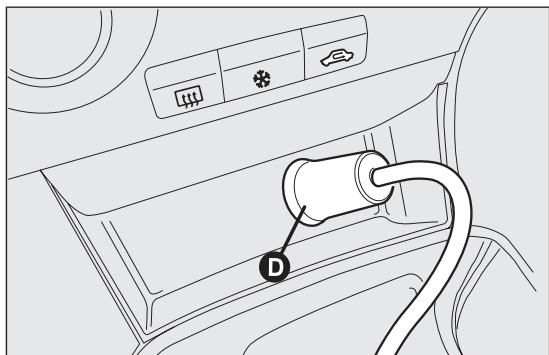
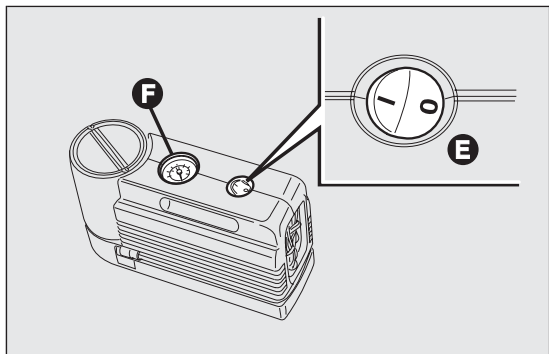

fig. 153
fig. 154
- make sure that switch E fig. 154 for the compressor is in position 0 (off), start the engine, insert plug D fig. 153 into the cigar lighter socket and switch on the compressor by placing switch E fig. 154 in position I (on). Inflate the tyre to the pressure specified in the "Cold tyre pressures" paragraph in "Technical data" chapter.
Check tyre pressure on pressure gauge F fig. 154 with compressor off to obtain a more precise reading;